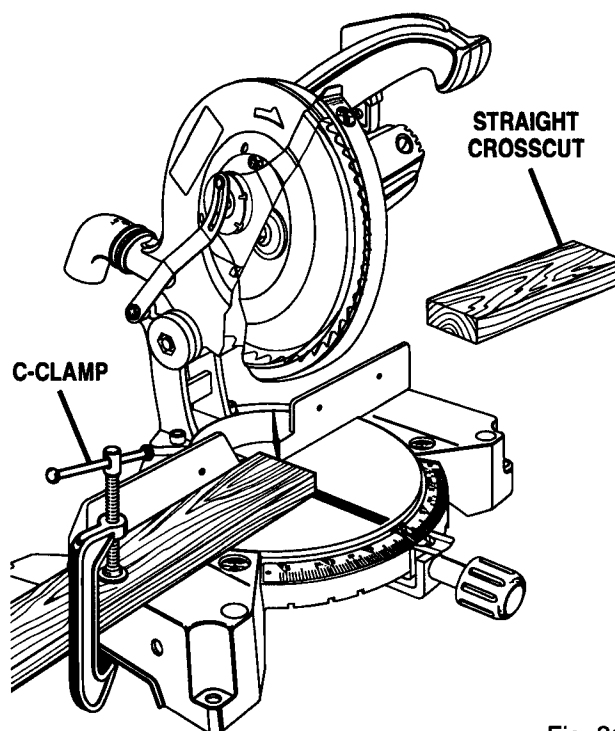

Fig. 21
See Figure 21.
- Grasp the stock firmly with one hand and secure it against the fence. Use the optional work clamp or a C-clamp to secure the workpiece when possible. See Figure 21.